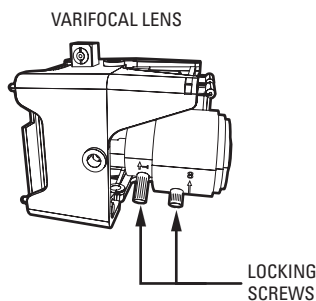

Figure 8. Varifocal Locking Screws
5. Loosen the focal length and focus locking screws (refer to Figure 8), and then adjust the lens according to the scene detail.